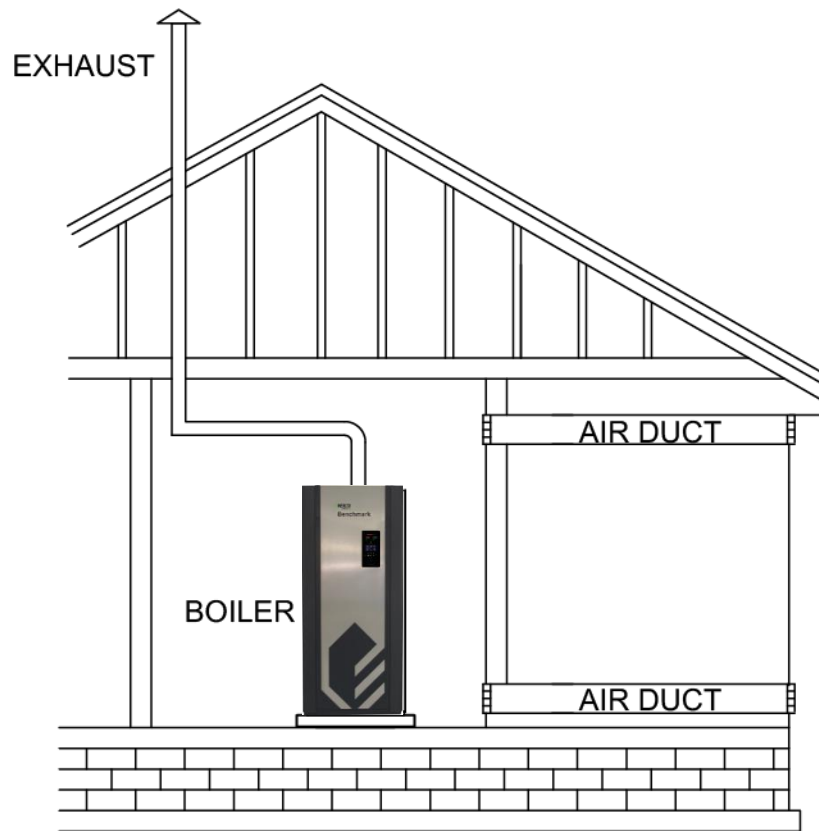

Figure 5: All Combustion Air from Outdoors Through Horizontal Ducts
2. When communicating with the outdoors through horizontal ducts, each opening must have a minimum free area of **1 inch² per 2,000 BTU/hr. (1100 mm²/kW)** of total input rating of all appliances in the space (see Figure 5).